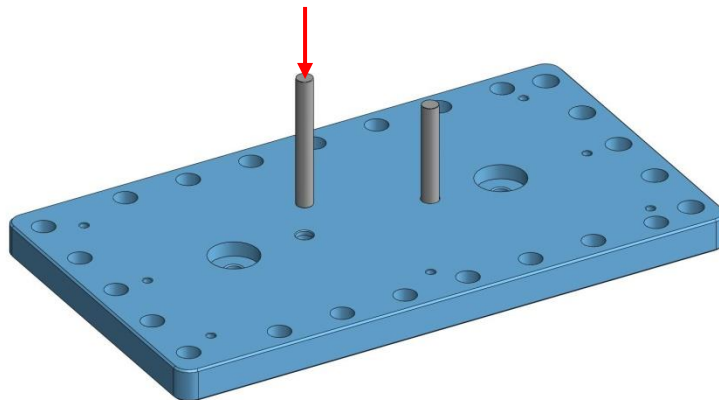

Figure 4.1. Press dowel pins into Small Panel Outer Wall. Note that counterbores all face same direction as pins.
4.20 Prep Work – Assemble (9) Small Panel Outer Walls (D071427)
- Press (2) 1/2"x4.0" dowel pins into each **Small Panel Outer Wall** (D071059), as shown in Figure 4.1. (If necessary, first heat **Wall** and cool pins, to reduce interference.)